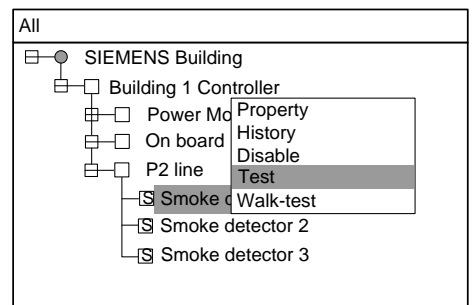

Fig.14-4
3. Press “→” to pop out the shortcut menu (Fig.14-4). Use “↓” to select “Test/Walk-Test” and press “OK” to test the selected equipment.